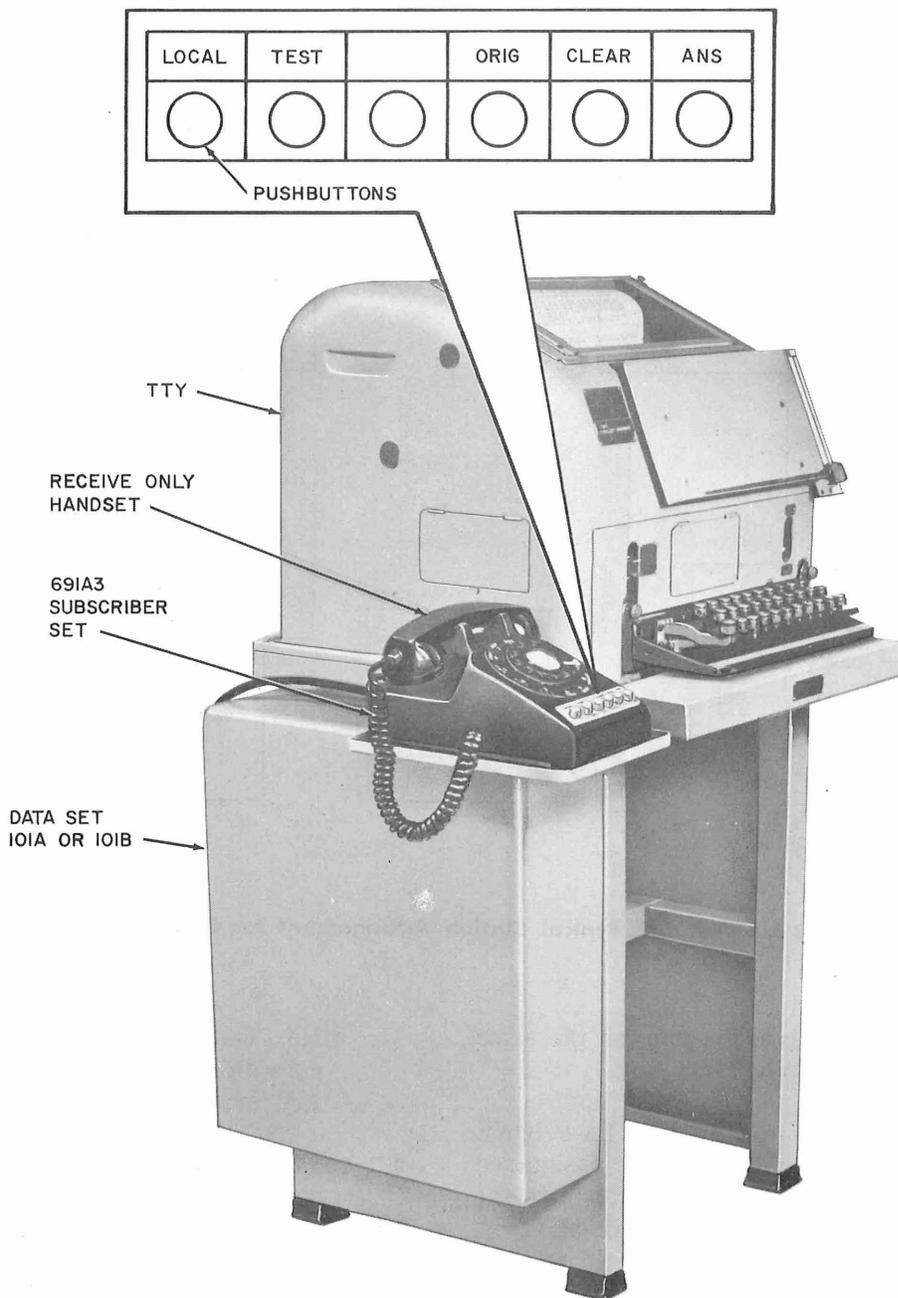

Fig. 3—Data Set 101A or 101B and Subscriber Set 691A3 Associated with 15-Type TTY
- The 691-type is used with 14-, 15-, and 19-type machines. It is a key telephone set specifically designed for TWX and is mounted on the left side of the TTY table (Fig. 3).